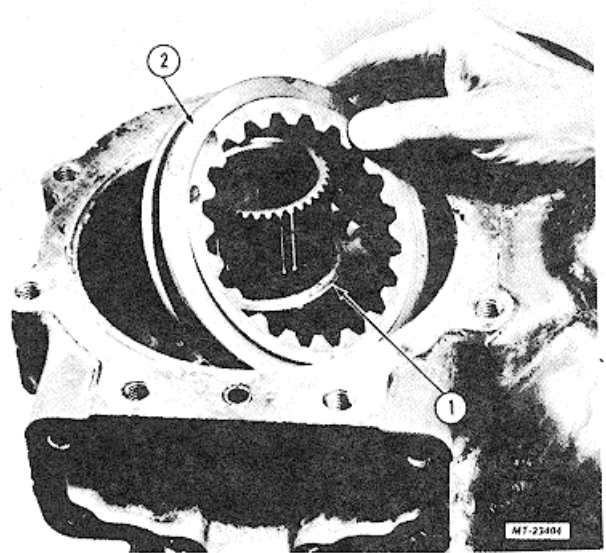

Fig. 11. Removing Clutch Shift Collar
1. Lift inter-axle clutch shift collar from input gear (Fig. 11).